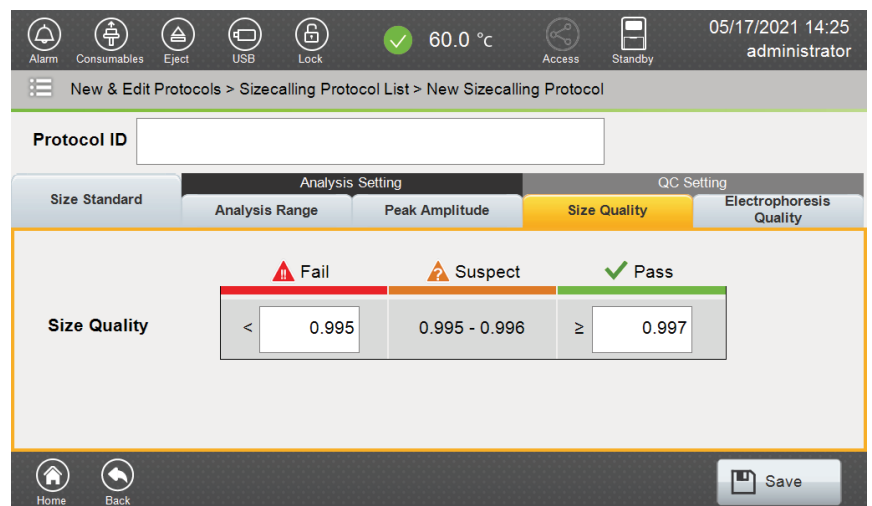

Figure 133. 'Size Quality' tab.
Size Quality	<p>Defines the SQ values for passing and failing SQ data. Sizing data that fall between these values will be flagged as "Suspect" (data should be manually reviewed in 'Result' tab to determine whether or not it is acceptable to the user or requires reinjection). See 'Results' Tab in Section 5.7 for definition of SQ.</p> <p>Note: Default values are supplied when creating a new sizecalling protocol but may be edited by the user. The SQ range allowed by the software is 0.001 to 1. The numerical value for 'Fail' must always be lower than the numerical value entered for 'Pass' (Figure 133).</p>
9. Select the 'Size Quality' tab to reveal the default settings for minimum passing and maximum failing SQ values (Figure 133). These parameters can be changed when creating a new size calling protocol.